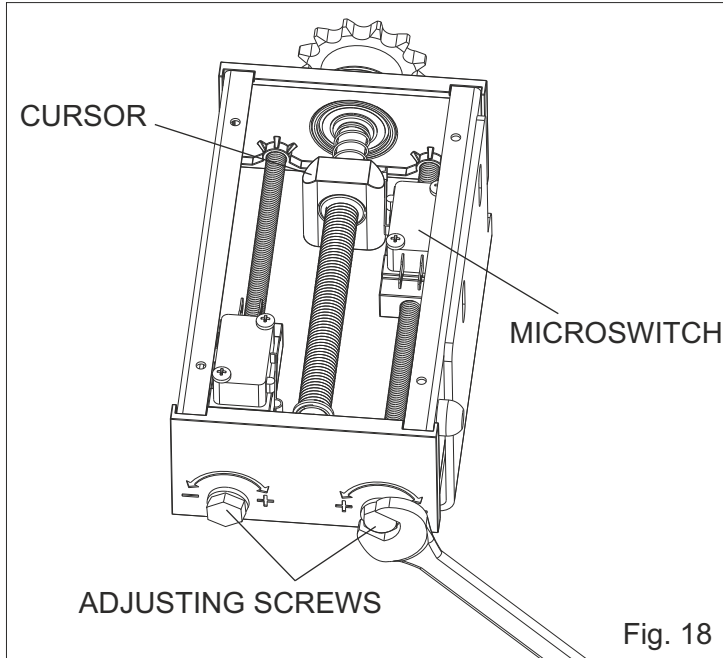

Fig. 18
- act on the adjusting screw so that the microswitch can activate the contact with the cursor (Fig. 18)